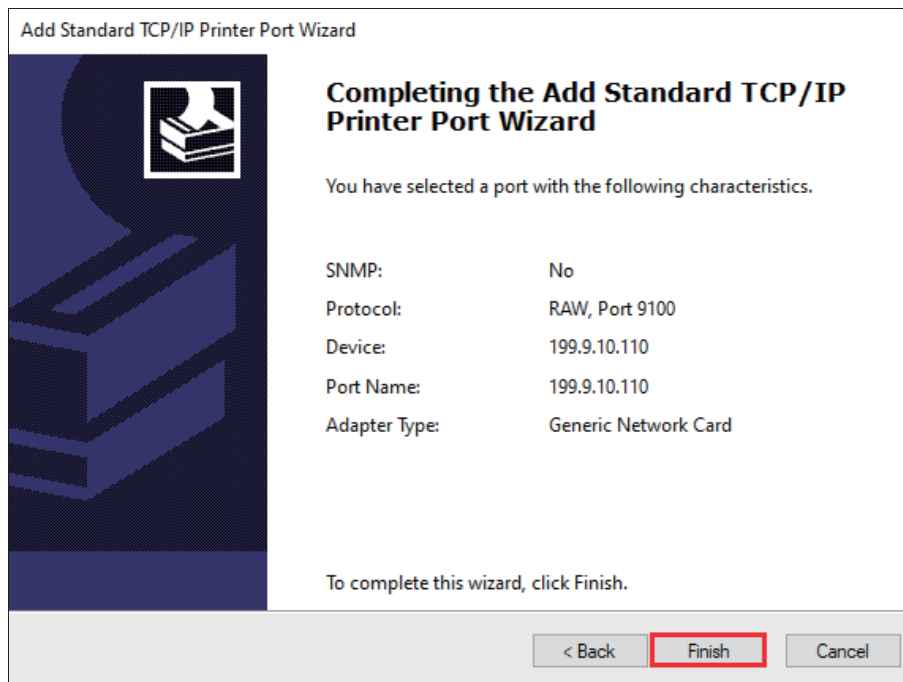

Figure 2-40 Complete adding Standard TCP/IP Printer Port
8. Windows will automatically detect the TCP/IP port. Click “Finish” to complete adding Standard TCP/IP Printer Port, as shown in Figure 2-40.